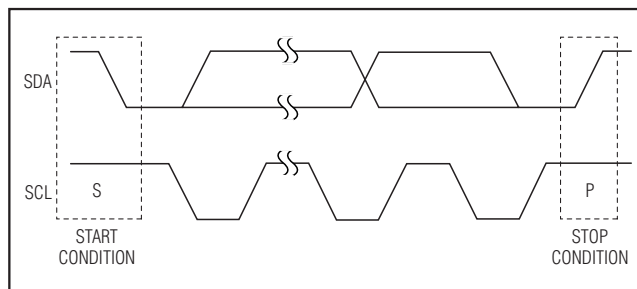
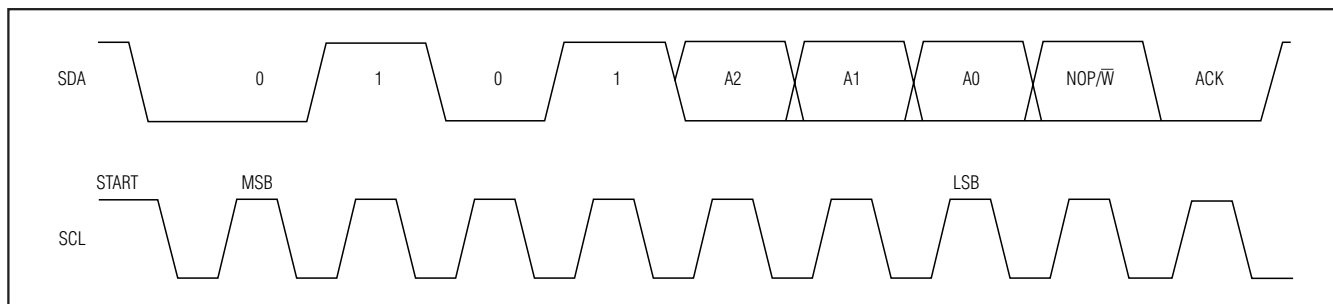

Figure 3. START and STOP Conditions
Figure 4. Slave Address
Each transmission consists of a START (S) condition (Figure 3) sent by a master, followed by the MAX5477/MAX5478/MAX5479 7-bit slave address plus the NOP/ \bar{W} bit (Figure 4), 1 command byte and 1 data byte, and finally a STOP (P) condition (Figure 3).
communicating with the slave. The bus is then free for another transmission (Figure 3).
The MAX5477/MAX5478/MAX5479 have a 7-bit-long slave address (Figure 4). The 8th bit following the 7-bit slave address is the NOP/ \bar{W} bit. Set the NOP/ \bar{W} bit low for a write command and high for a no-operation command.